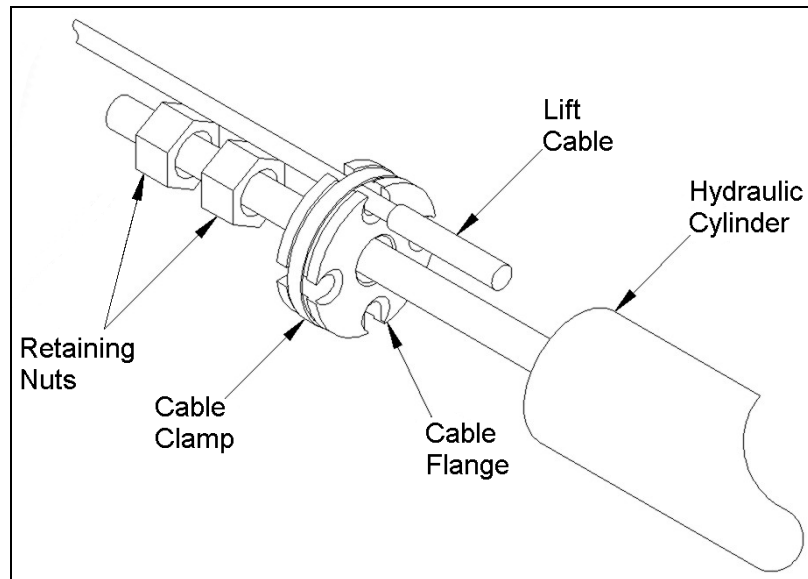

Figure 3. Cable Installation at Flange
1. The non-threaded ends of the cables are pre-installed on the cable flange. Ensure that the cable flange is installed with the counterbores facing towards the hydraulic cylinder as shown in Figure 3
2. Ensure that the two retaining nuts are positioned as shown in Figure 3. The nuts should be locked against each other using two wrenches.